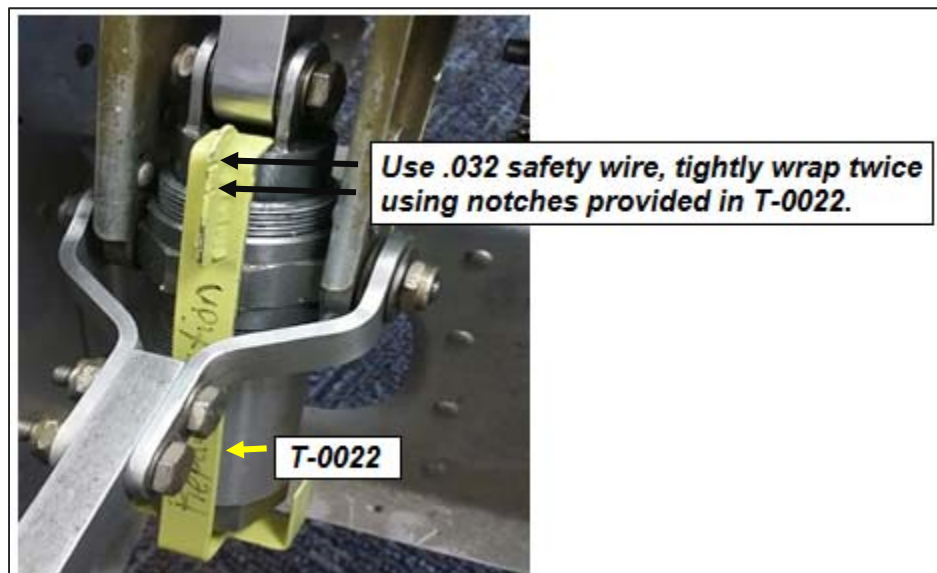

Figure 6. Spring Capsule Caged with T-0022
6.3.10 Cage and remove the collective spring capsule (Figure 6 and para. 12-5, MM).
- 6.4.17 Reinstall the spring capsule assembly (para. 12-5, D, MM and Figure 6).